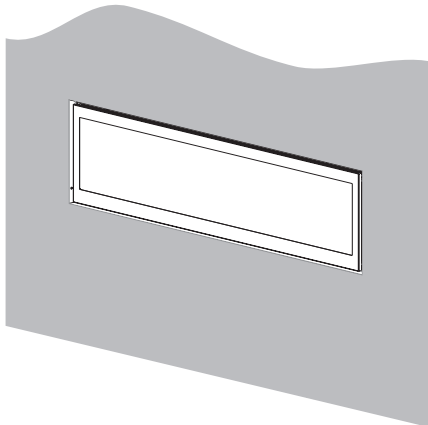

Figure 12
2. Sheathing and framing may be placed to the stainless top, bottom and side surfaces. The back side of the outdoor kit and the top surface of the fireplace are non-combustible zones. See Figure 12.